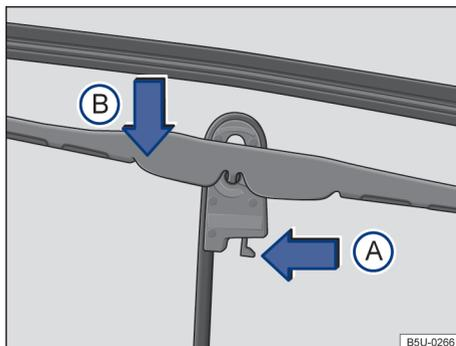

Fig. 131 Replacing windscreen wiper blades.
- Position the wiper in a perpendicular position to the wiper arm → Fig. 131.
- Push the release lever as directed by the arrow ①.
- Disengage the wiper as indicated by arrow ②, move the wiper in the wiper arm's opposite direction and remove the wiper in the opposite direction to the indicated by arrow ③.